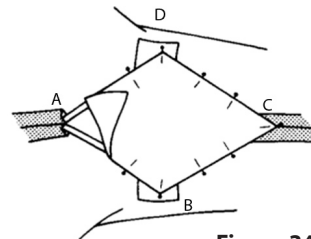

Figure 34
2. With right sides together, position gusset over slashed opening so that points of gusset match corresponding markings of opening; pin. Be sure to accurately align stitching line of opening and gusset seam line. Baste, but do not remove pins from corners (Figure 34).